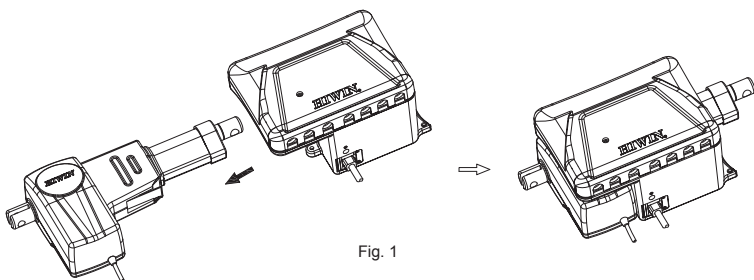
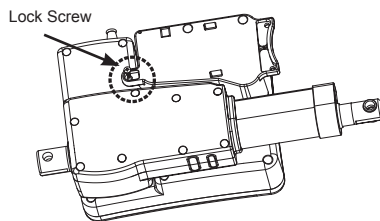
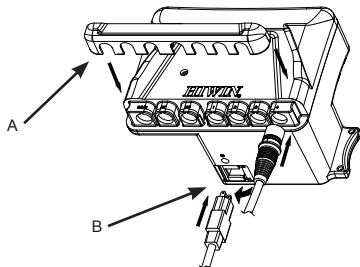

Fig. 1
Fig. 2
Fig. 3
5. LAN1 and LAK4N Installation: Align a bolt on LAK4N controller with LAN1 notch to insert downward (Fig. 1). There is one 3/16" *20 lock screw circled in Fig. 2 to fix an actuator and controller.
6. Installation of LAK4N Fixer: Vertically and upwardly remove a fixer (A) from LAK4N controller. After inserting connectors of an actuator and key box, vertically insert back a fixer (Fig. 3) along the arrow direction. Before inserting main power cord, rotate out the locker (B) along the arrow direction to insert power cord (Fig. 1) and then pull it back (Fig. 4) along the arrow direction.